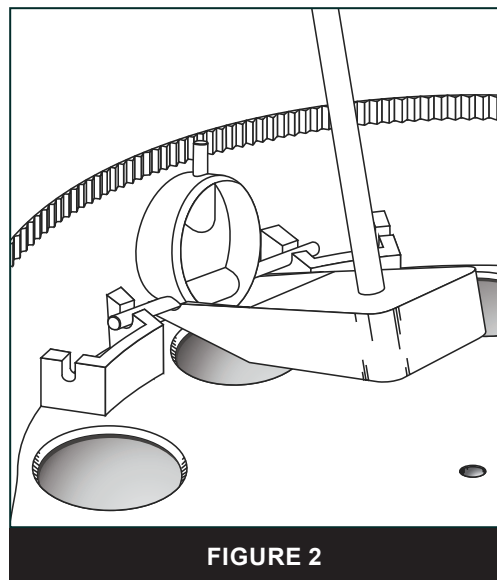

FIGURE 2
6. Pry the assembly out of the pin seats by pulling the extractor tool rearward. Refer to **Figure 2** below.